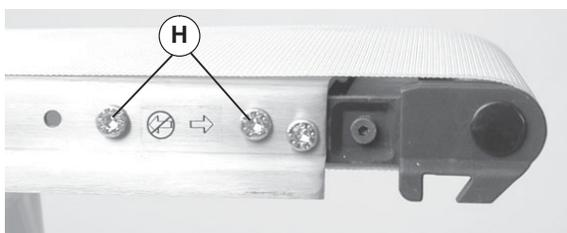

Figure 14
7. Remove head plate screws (Figure 14, item H) on the non-gearmotor mount side of the conveyor.